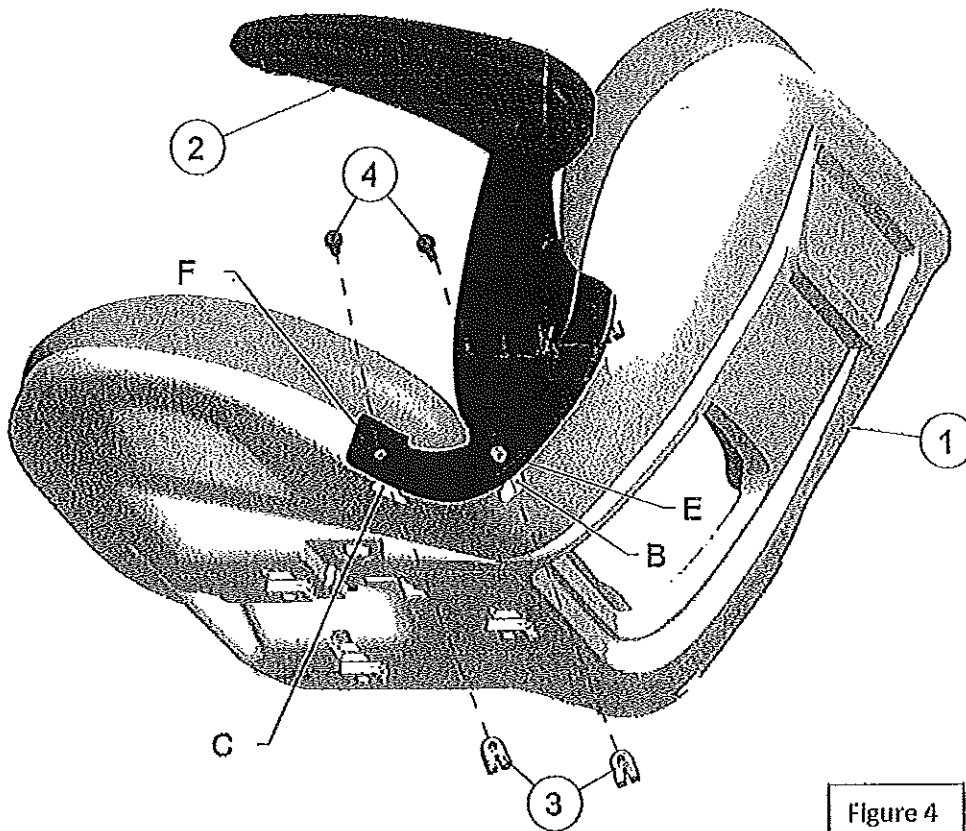

Figure 4
6. Repeat steps 2, 4, and 5 for the fasteners at the other end of the bracket (2) at slot C and hole F. See Figure 4.
7. Repeat steps 2, 4, and 5 for the middle slot E of the bracket (2) and slot B of the seat. See Figure 4.